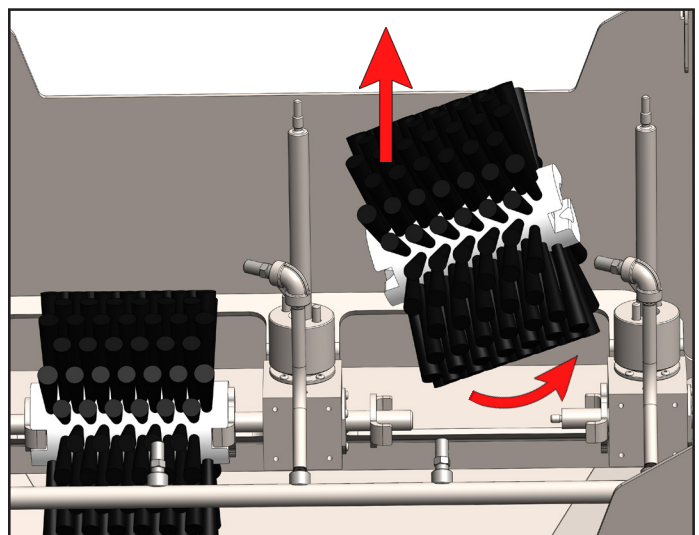

Fig. 9.2: Removing soles brushes (1 of 2)
4. Lift the first sole brush out of the tub by grabbing the open end and lifting up to clear the opposing drive shaft anchor [Figure 9.2].